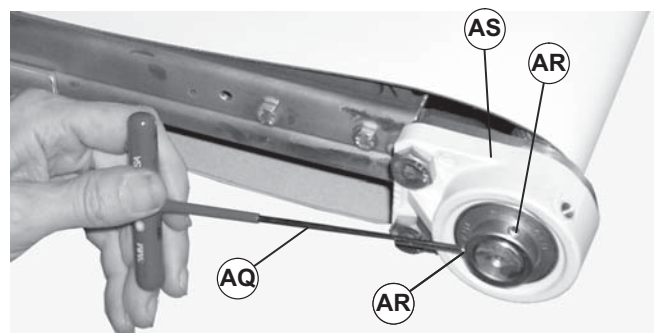

Figure 21
7. Using a 3mm hex key wrench (Figure 21, item AQ), loosen two set screws (AR) on bearing and head plate assembly (AS).
6. Using a 3mm hex key wrench (Figure 21, item AQ), tighten two set screws (AR) on bearing (AS).